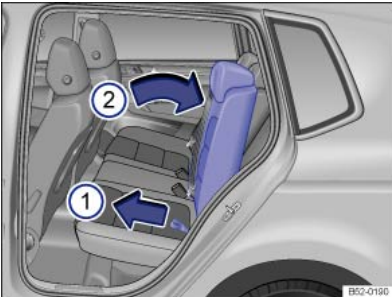

Fig. 85 Adjusting the rear bench seat backrest.
- Push down on the left-hand or right-hand side of the backrest with one hand and simultaneously pull on the corresponding loop with the other hand ⇒ Fig. 85 .
- Adjust the rear seat backrest to the required position with your hand against the spring pressure ⇒ Fig. 85 ②.